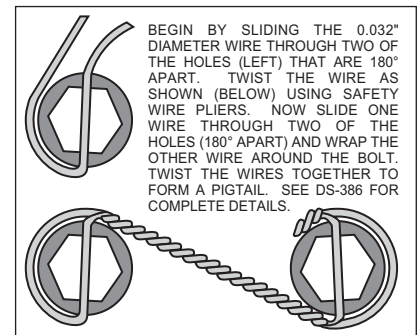

Figure 3. Safety Wire Diagram
- With the larger I.D. side of the rotor (3) facing away from the hat (4), bolt rotor (3) to hat (4) through the backside of the rotor using washers (5) and bolts (6). Be sure all bolts thread in smoothly and are snug. Then, torque all bolts in an alternating sequence to 103 **in-lbs**. The rotor mounting bolts (6) must be lockwired using standard 0.032 inch diameter stainless steel safety wire as shown in Figure 3. Please refer to Wilwood's data sheet DS-386 (available at www.wilwood.org/ds386.pdf) for complete safety wire installation instructions.
- Install one shim (11) over each stud (10) on the radial mount bracket (1). Slide the caliper (7) in place over the studs and rotor and install the washer (9) and lock nut (8) to hold the caliper in place. The caliper bleed screws should be pointing up. Snug the lock nuts (8) and check that the rotor (3) is centered in the caliper (7). Add or subtract .029" shims (2) as necessary between the caliper mount bracket (1) and the caliper mount bosses on the upright assembly to center the caliper (7).
- Remove the two caliper pad retaining pins from the caliper (1) by popping out the pin retaining clips and sliding out the pins. Slide the brake pads (12) into place. They should install easily without interference. Check that the outside radius of the brake pad is aligned with the outside diameter radius of the rotor face. Add or subtract shims (11) between the caliper and mount bracket to gain the proper alignment. Reinstall the pad retaining pins and secure using the pin retaining clips.
- Adjust the parking brake shoes outward (using a drum shoe adjustment tool available at your local auto parts store) while spinning the hat (4) until a slight drag is felt against the hat/drum.
- Once all clearances have been checked, remove the wheel, caliper and rotor from the axle flange. Secure the caliper mounting bracket (1) to the upright using red *Loctite*® 271 on the bolt threads. Torque the bolts to manufacturer's specifications. Reinstall the rotor and again use several lug nuts to hold it in place. Lubricate caliper mounting studs and nuts with lightweight oil, reinstall the caliper, torque the caliper nuts (8) to 47 ft-lbs.